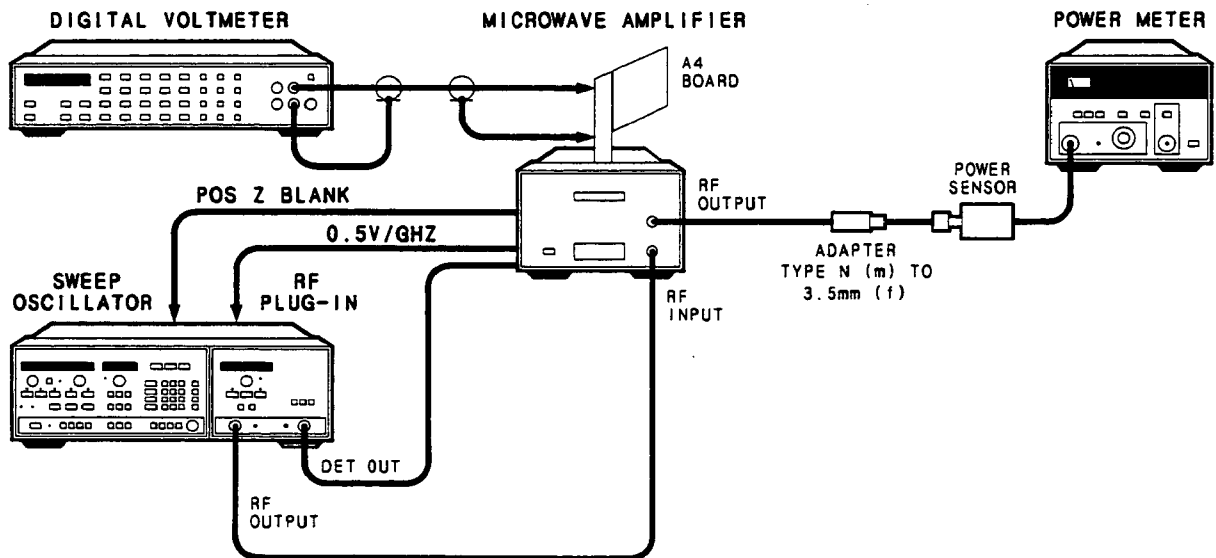

Figure 8-17. Troubleshooting Test Setup
2. Connect the equipment as shown in Figure 8-17 (refer to the Service Position Installation Procedure for extending the A4 board). Set the sweep oscillator to CW, 11.0 GHz, external leveling, and a power level of +20.0 dBm.